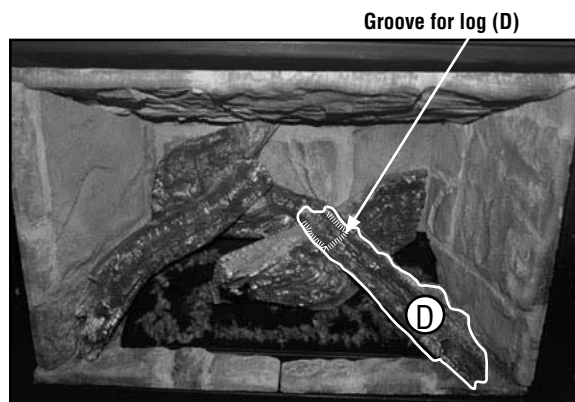

Figure 25
5. Locate groove in center log (B), and place the top of the right log (D) in groove with the bottom end of the log resting against the right refractory panel. See **Figure 25**.